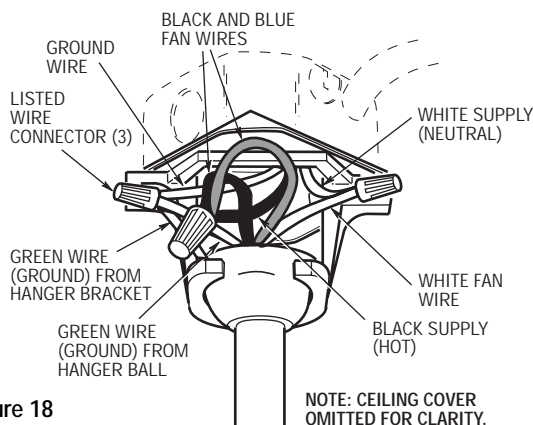

Figure 18
1. Connect the green grounding lead from the hanger ball and the green grounding lead from the hanger bracket to the grounding conductor of supply (this may be a bare wire or wire with green colored insulation). Securely connect wires with wire connectors supplied. (Figure 18.)
2. Securely connect the fan motor white wire to the supply white (neutral) wire using wire connector supplied (Figure 18). Securely connect the fan motor black wire and blue wire to the supply black (hot) wire using wire connector supplied (Figure 18). After connections have been made, turn leads upward and carefully push leads into the outlet box, with the white and green leads on one side of the outlet box and the black and blue leads on the other side of the outlet box.